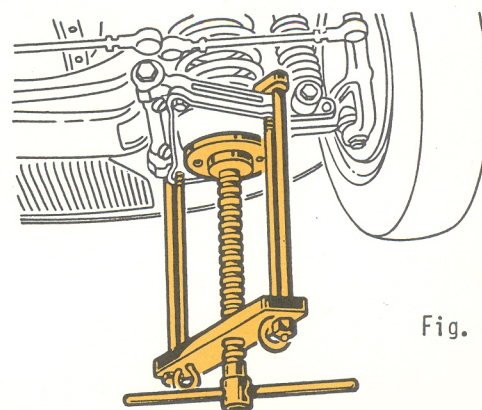

Fig. 2
- 5 Lock the column "C", remove the two screws "M" and mount the shorter tie-rods "O" complete with their nuts "P" as shown in fig.2.